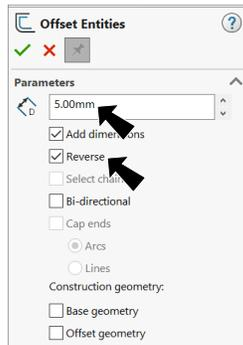

Fig. 47
Step 5. Still in Offset Entities Property Manager under Parameters, **Fig. 47**